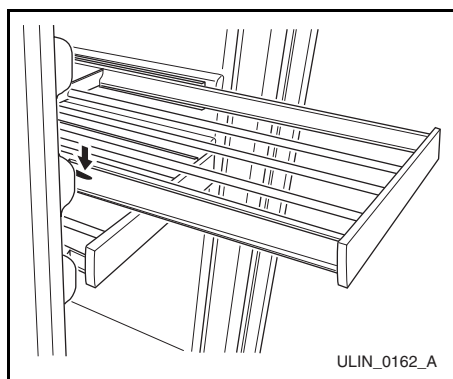

Figure 18
3. Press the left rack release lever (**Figure 18**) down, and at the same time, lift the corresponding right rack